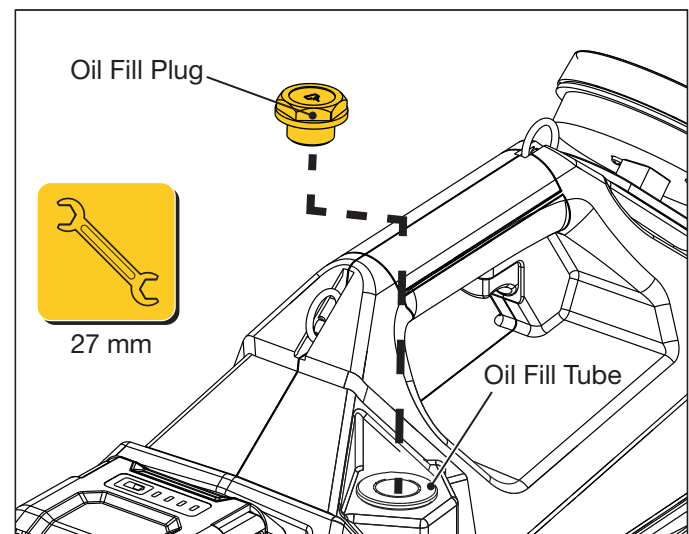

Figure 12: Oil Fill Location
1. With the pump power switch in the ON (I) position, press the pendant MOTOR OFF button  or  to relieve any residual hydraulic pressure in the system.
2. Turn off the pump power switch (O).
4. Remove the oil fill plug from the fill opening. Use a 27 mm wrench. See Figure 12.
1. With the power switch turned on (I), press the MOTOR OFF button  or  to relieve any residual hydraulic pressure.
2. Place the pump on a level work surface. Be sure the pump power switch is in the OFF (O) position.
3. Remove the oil fill plug from the fill opening. Use a 27 mm wrench. See Figure 12.